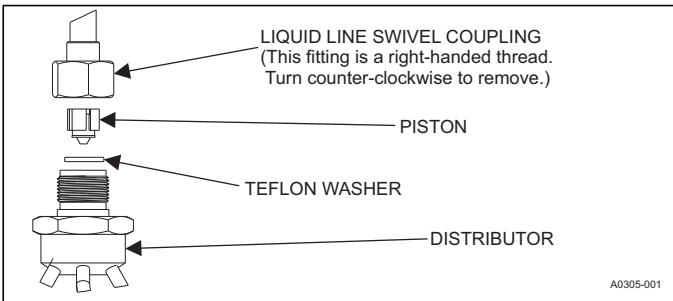

FIGURE 15: Piston Installation
6. Install required size piston into the distributor. Refer to supplied Tabular Data Sheet for specific piston size and indoor coil match up. See Figure 15.
7. Verify that the Teflon washer is still in place in the distributor opening. See Figure 15.